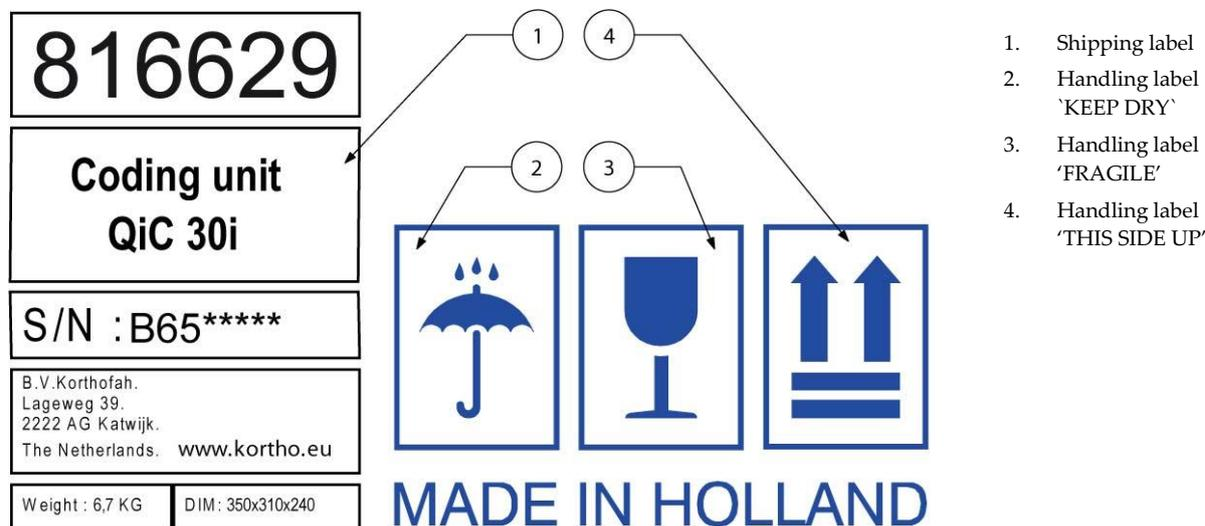

Fig. 5.1 Shipping and handling labels
The original packaging for the QiC i-series is labelled with similar shipping and handling labels as shown in Fig. 5.1. The handling labels must be visible from all sides.
- Refer to label (1) of Fig. 5.1 for shipping information.
- Store the package in a dry location, refer to label (2) of Fig. 5.1.
- Handle the package with care, because the printhead is fragile. Refer to label (3) of Fig. 5.1.
- Keep the package upright in all cases, refer to label (4) of Fig. 5.1.
- a. Label the box with 'keep dry' labels like label (2) of Fig. 5.1 (visible at all sides).
- b. Label the box with 'fragile' labels like label (3) of Fig. 5.1 (visible at all sides).
- c. Mark the top of the box with 'this side up' labels like label (4) of Fig. 5.1 (visible at all sides).